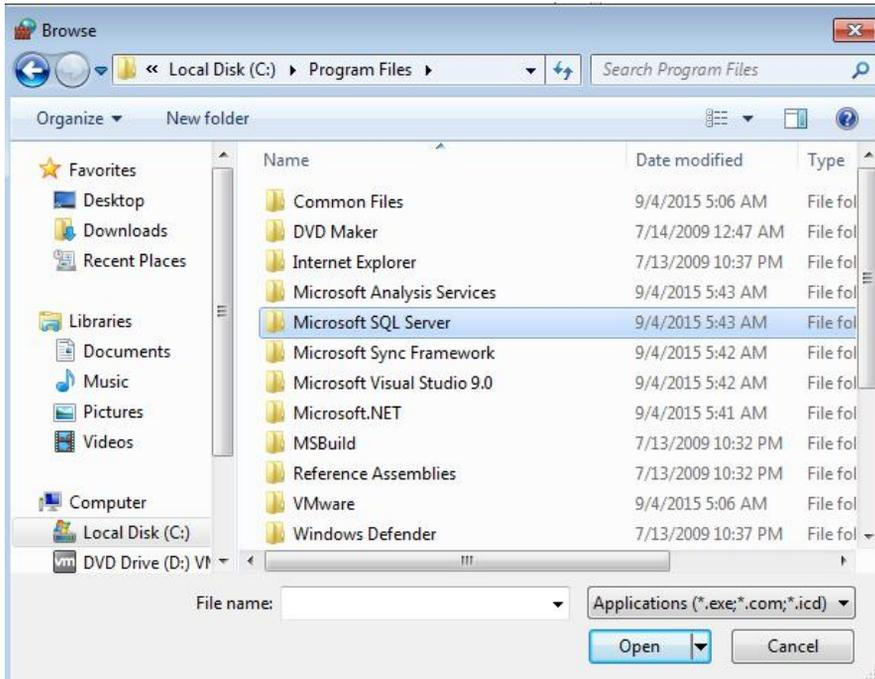

Fig.1.20 Program Files
(7) Open "Microsoft SQL Server" folder (see Fig.1.20).